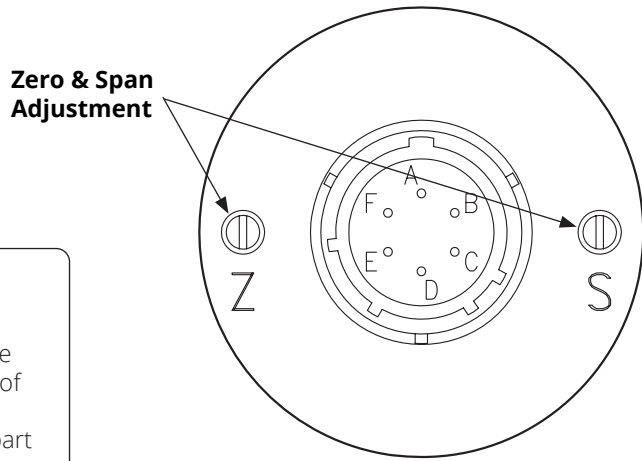

Figure 7.1
**IMPORTANT:** Do not make changes to the Span adjustment (the "S" pot to the right, see Figure 7.1) as part of the zero trimming. The Span should only be changed as part of the recalibration of a gauge with a known pressure source.
- Apply full scale pressure to the pressure port and adjust the Span ("S") pot (on the right of Figure 7.1) until the full scale signal is reached.